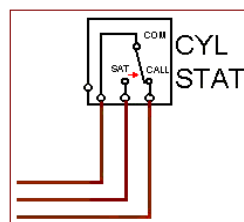

Fig. 10
2. Cylinder Stat calls for heat (Fig. 10)